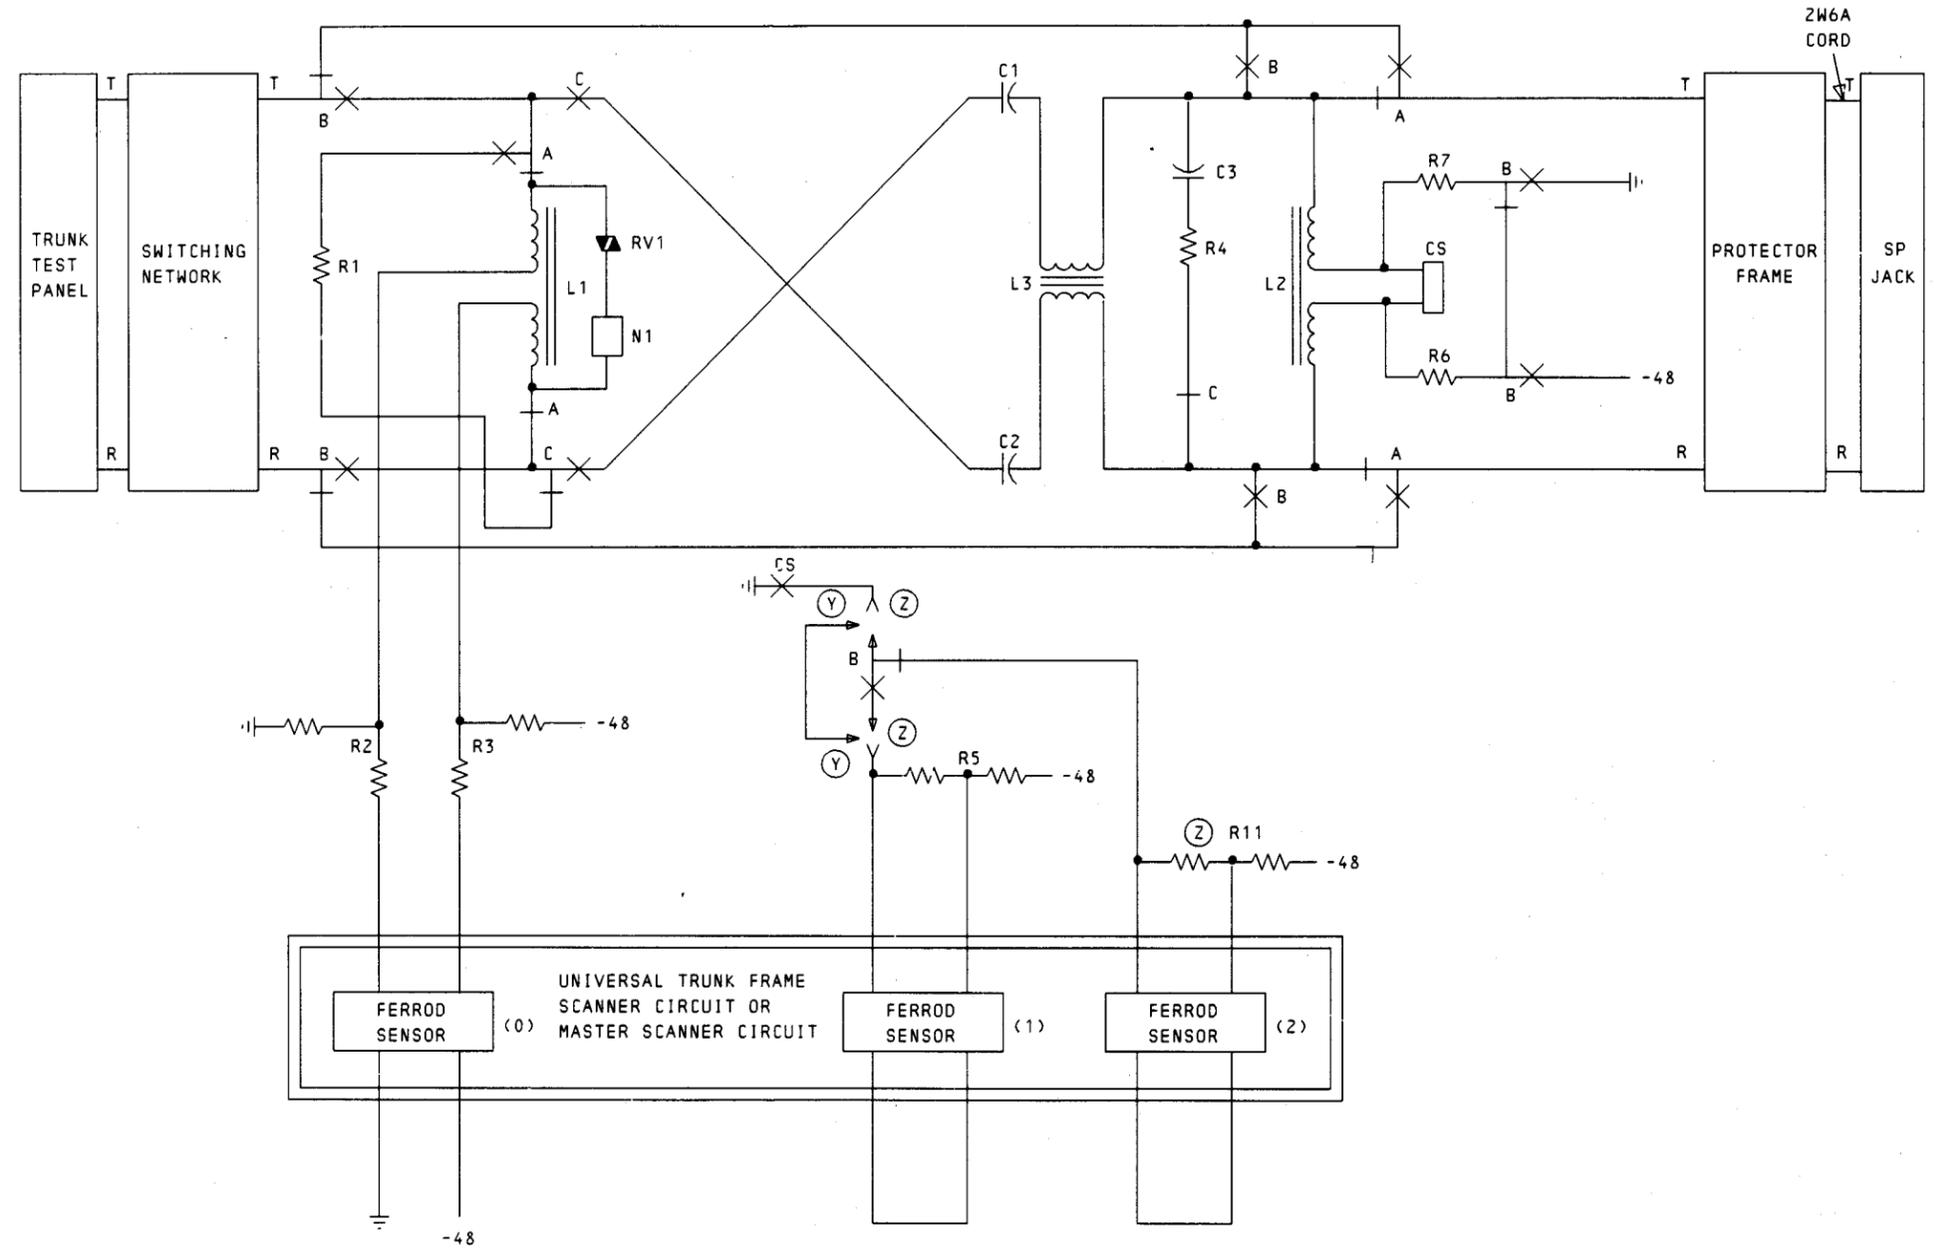

Fig. 1—Outgoing Trunk Circuit (SD-2H147)
**1.02** This section is reissued to make corrections to the test procedure and to Fig. 1.
**3.05** The following is a step-by-step procedure to make the outgoing trunk circuit traffic busy and connect it to the TTP (Fig. 1).